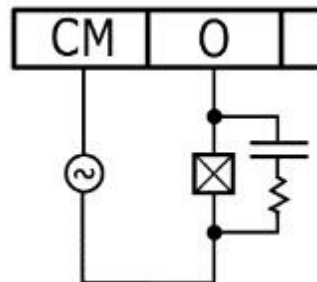

Figure 24. AC Load
- An RC snubber circuit in parallel with each inductive AC load as shown in Figure 24.
- Press Add/Display Setpoints button (see Figure 24) to access the screen shown in Figure 29. Within this screen the user will be able to view/edit alarm Enable/Disable status, Alarm Direction, Latch Status, Alarm Levels, and Alarm Zone and write changes to a specific Slave ID (X3 transmitter).